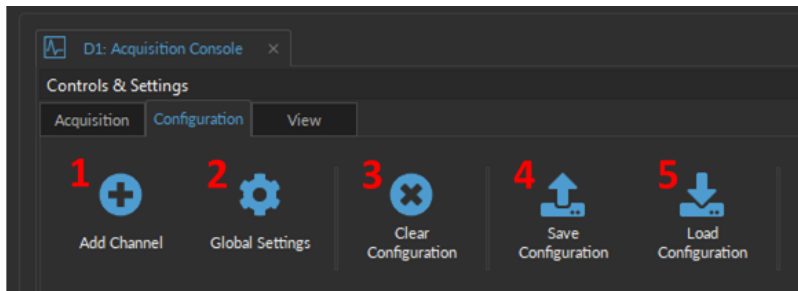

Figure 5.7: Configuration Tab
1. The **Add Channel** button (Fig. 5.7, 1) opens the **Channels configuration** window. How to *add* and *configure* a channel is detailed in Section 5.4. Table ?? describes different types of channels available, their use cases and their individual sections.
2. The **Global Settings** (Fig. 5.7, 2) opens the **Global Options** window in Fig. 5.8, where user can set the acquisition sampling rate and specify the master trigger options. See Sections 5.3.2.1 for more details.
3. The **Clear configuration** button (Fig. 5.7, 3) resets the acquisition view and all other parameters set. Any configurations not saved will be lost.
4. The **Save configuration** button (Fig. 5.7, 4) allows a console configuration to be saved in the **.doric** format. This file preserves the current channel configuration/parameters, the Acquisition View window organization, and any custom trace colors and names.
5. The **Load configuration** button (Fig. 5.7, 5) imports a pre-configured **.doric** file into the module.